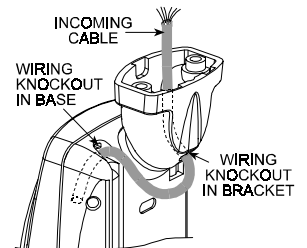

Figure 9. Routing the Cable
H. Route the cable through the bracket and into the detector as shown in Figure 9.